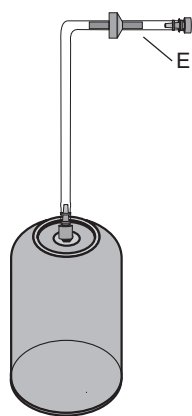

Figure 2
2. Attach part E to the connector on the top of the bell jar. Twist to secure the connection (Figure 2).